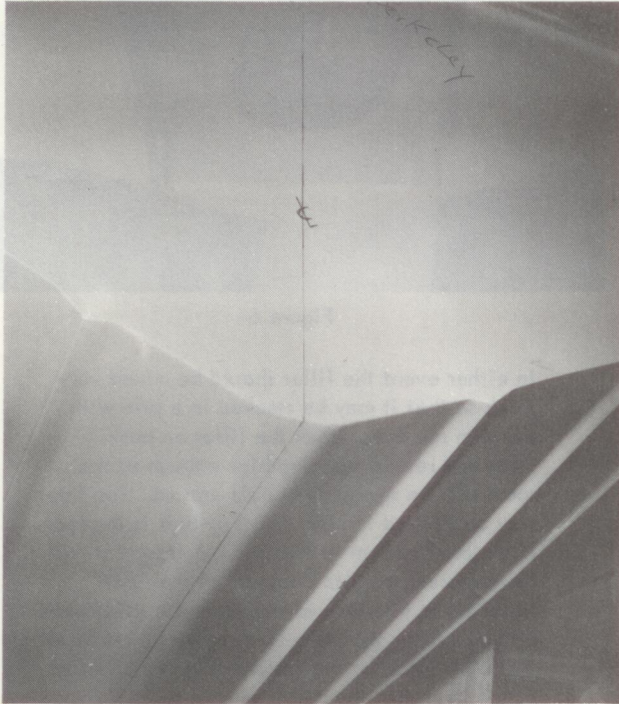

Figure 1
1. Locate the centerline on the outside of transom and boat bottom (Figure 1).